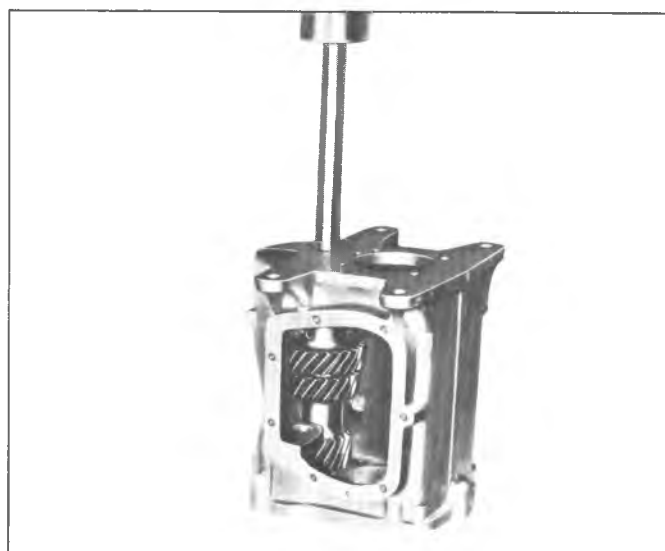

Fig. 8B--Removing Countershaft With J-22246
13. From the front of the case, press out the countershaft (fig. 8B) using Tool J-22246; then remove the countergear and both tanged washers.